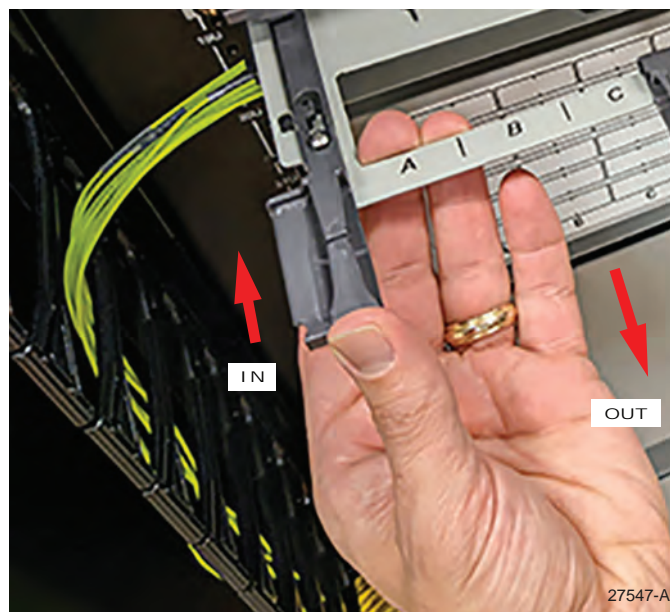

Figure 24. Sliding Out Blade from Panel.
3. Holding the cross bar stationary, push the handle toward the inside of the panel to release the blade from panel, and pull outward as shown in Figure 24.